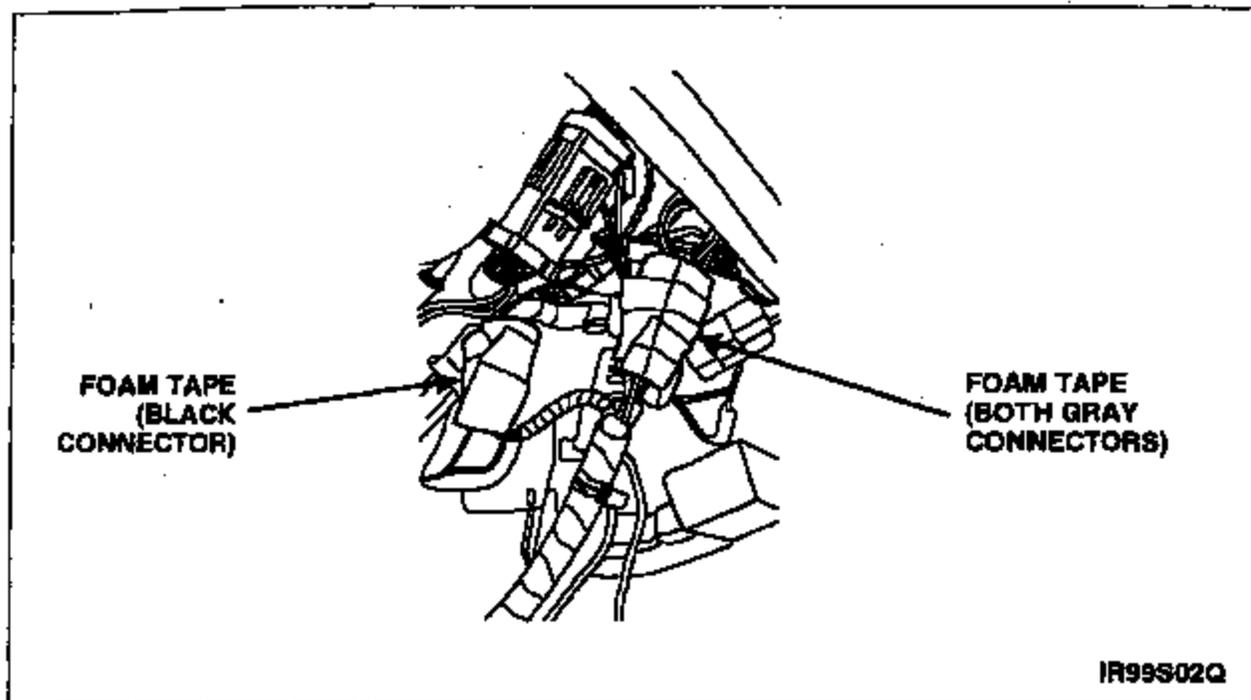

FIGURE 17
28. Using foam tape, wrap both gray electrical connectors together. See Figure 17.
29. Using foam tape, wrap the black electrical connector. See Figure 17.